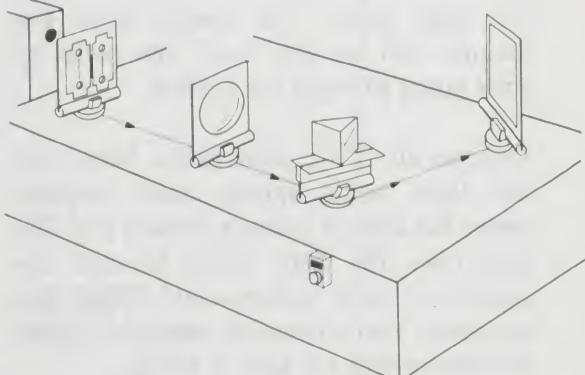

Figure 12. This spectrophotometer uses a prism to break up the light. It is similar in many respects to the grating spectrophotometer.
1. Set up a different spectrophotometer using a prism instead of a grating to break up the light. Use the same template but place the components as shown in Figure 12.